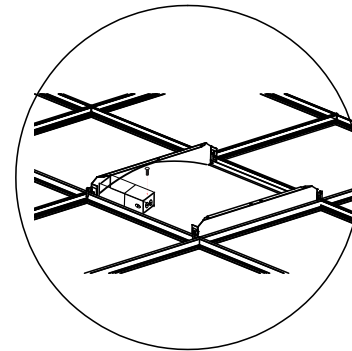

FIG.2
3. Unscrew and open the driver box and make wire connections using one of the knockouts [Fig.2].